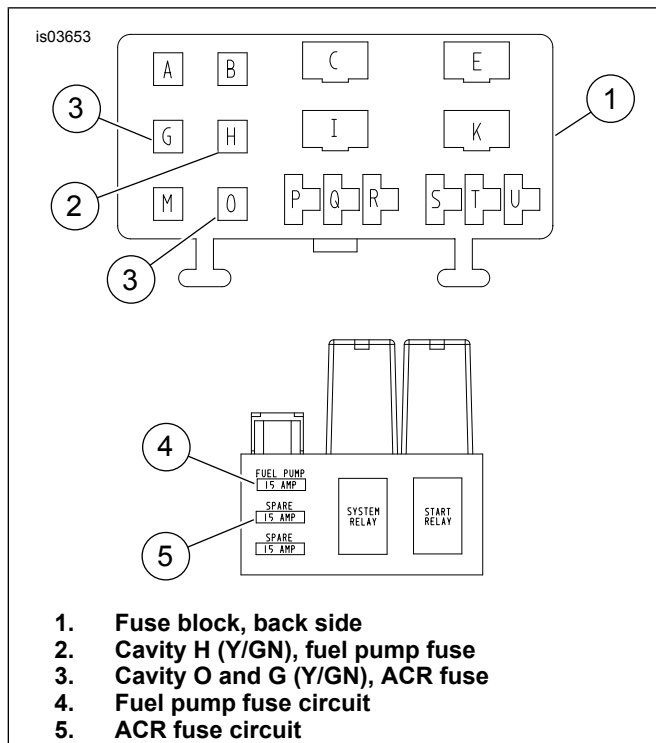

Figure 17. Right Fuse Block (Modified)
- See Figure 17. Install fuel pump fuse (Y/GN) terminal wire previously removed from cavity O into spare fuse cavity H (2).
- Install Y/GN terminal wires from ACR overlay wire harness into cavities O and G (3).
- Install fuel pump fuse (4) and ACR fuse (5) (formally spare fuse) into right hand fuse block.